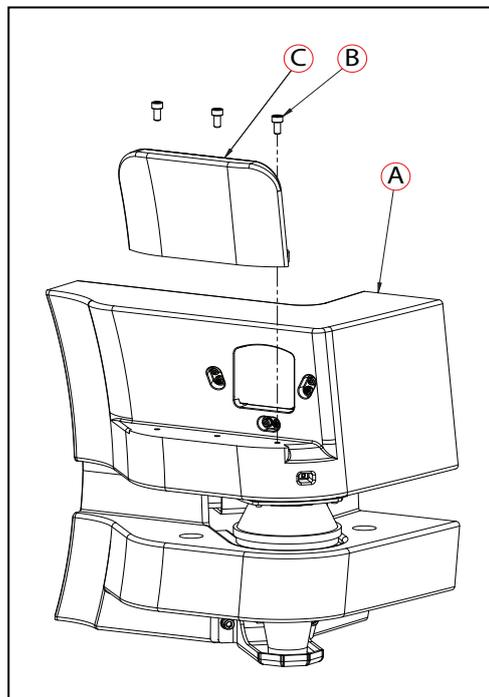

Figure 9-4. (A) Laser Corner, (B) M6 Screw, and (C) Laser Cover Fin
2. Unscrew all three M6 screws ((B) in Figure 9-4. ), and remove the laser cover fin ((C) in Figure 9-4. ).
3. Unscrew three M4 screws ((D) in Figure 9-4. ) that attach the side laser bracket to the laser corner ((A) in Figure 9-4.
4. Next, attach the side laser bracket to the side laser (using three M3 screws ((B) in Figure 9-4. )), and mount to the laser corner using the M4 screws you removed in the previous step.